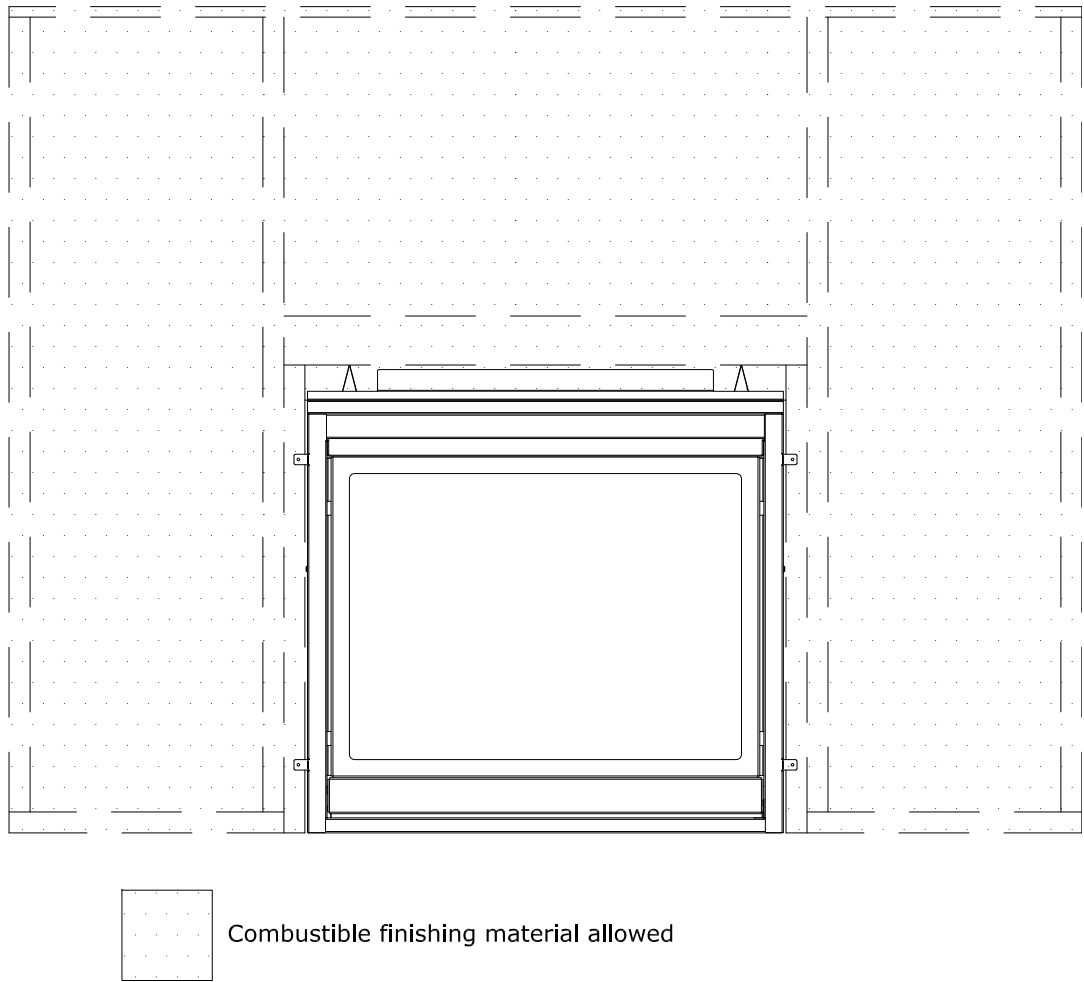
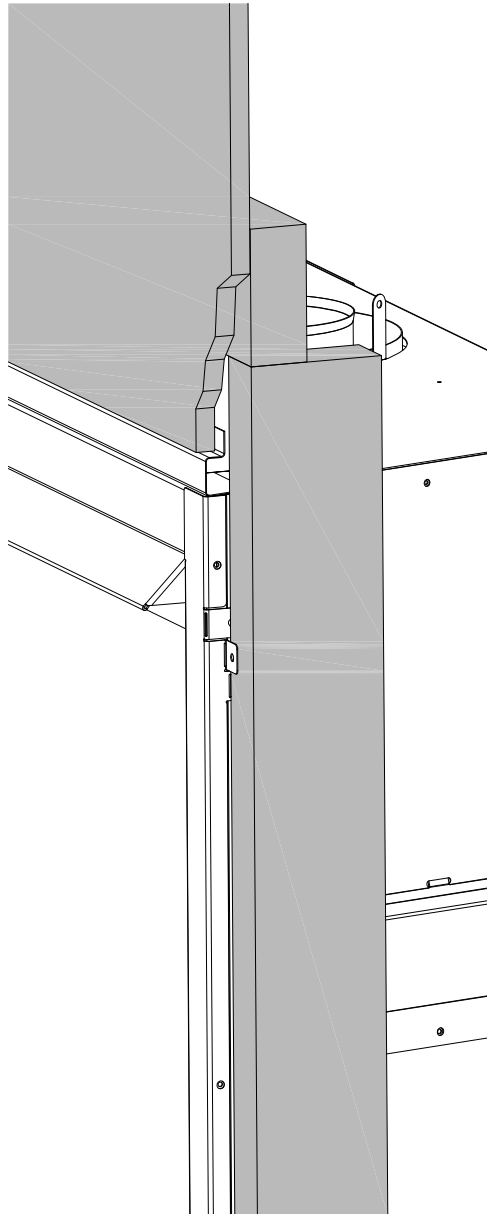

Figure 4.2 - Combustible Finishing Material
Figure 4.3 - Combustible Finishing Material
**Note:** Shown below (Figure 4.2) is where combustible finishing material is allowed. Combustible finishing material is allowed to butt up against the appliance. Figure 4.3 shows a side profile of how the combustible finishing material butts up against the top finishing material standoff.
**Note:** Figure 4.3 shows the facing material flush with the appliance.